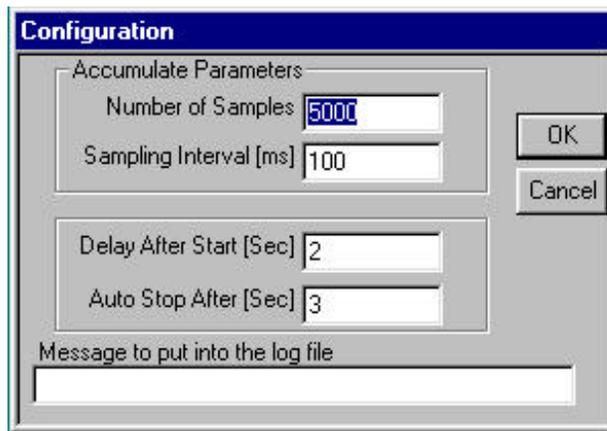

Figure 4
- **Start [Delay]:** For a delayed start of the counters, first click on “Configuration” from the menu bar and then set the following parameters in the Configuration dialog box (see Figure 4):
To use the Accumulate Start, first click on “Configuration” from the menu bar and then set the following parameters in the Configuration dialog box (see Figure 4):
- **Auto Stop:** Check this option to have the counters always auto stop after the time specified in the Configuration dialog box (see Figure 4).